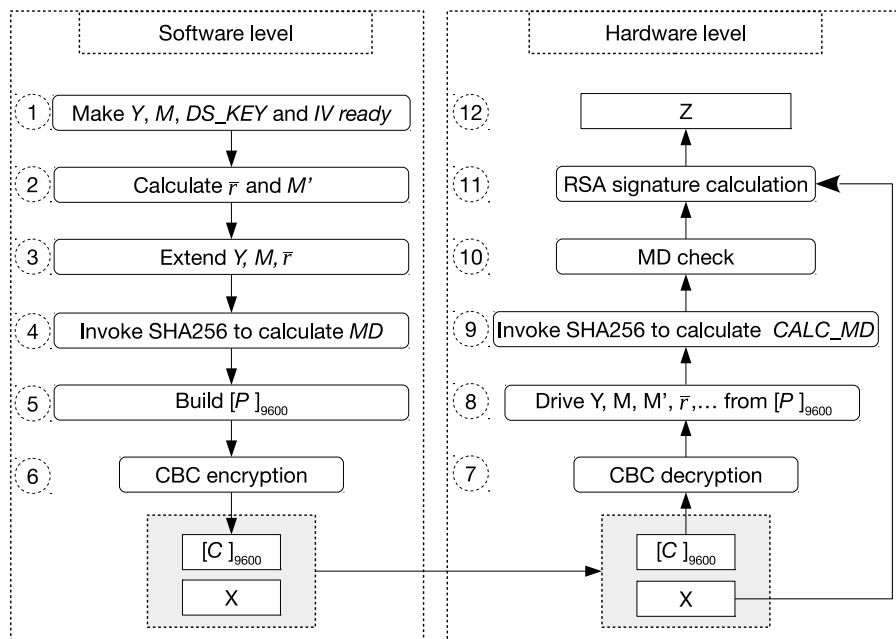

Figure 22.3-1. Software Preparations and Hardware Working Process
1. The software preparation (left side in the Figure 22.3-1) is a one-time operation before any signature is calculated, while the hardware calculation (right side in the Figure 22.3-1) repeats for every signature calculation.
You need to follow the steps shown in the left part of Figure 22.3-1 to calculate C . Detailed instructions are as follows:
1. Decryption: Step 7 and 8 in Figure 22.3-1
The decryption process is the inverse of Step 6 in figure 22.3-1. The DS module will call AES accelerator to decrypt C in CBC block mode and get the resulted plaintext. The decryption process can be represented by $P = \text{AES-CBC-DEC}(C, DS_KEY, IV)$, where IV (i.e., $[IV]_{128}$) is defined by you.
2. Check: Step 9 and 10 in Figure 22.3-1
The DS module will perform two checks: MD check and padding check. Padding check is not shown in Figure 22.3-1, as it happens at the same time with MD check.
3. Calculation: Step 11 and 12 in Figure 22.3-1